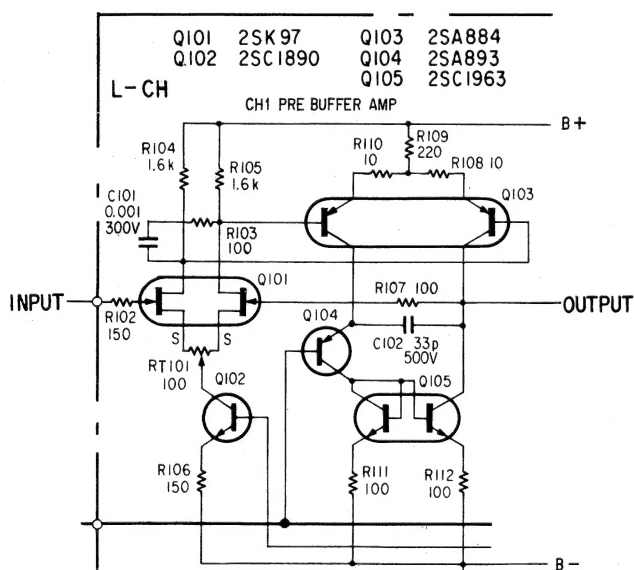

Fig. 1
1. Pre-buffer Amplifier Stage (see Fig. 1)